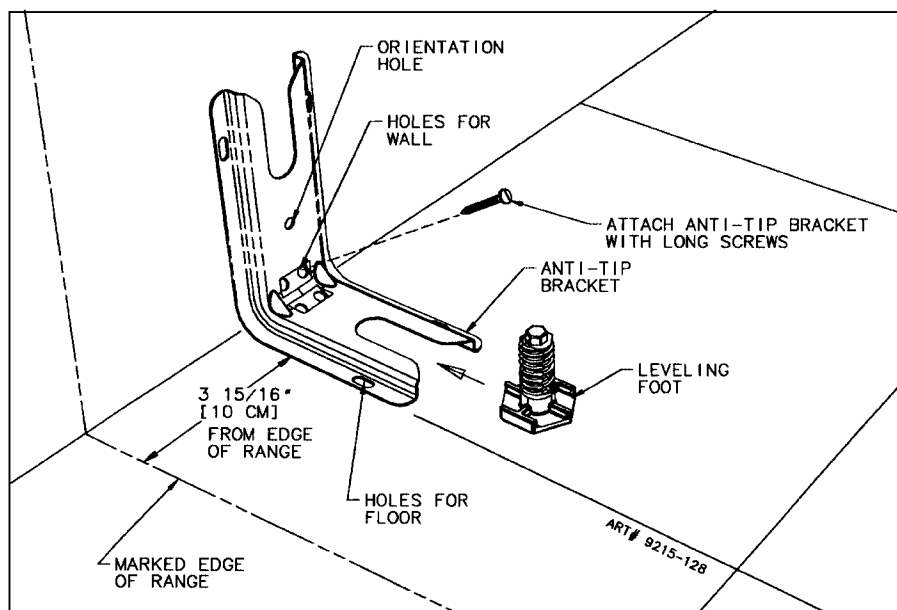
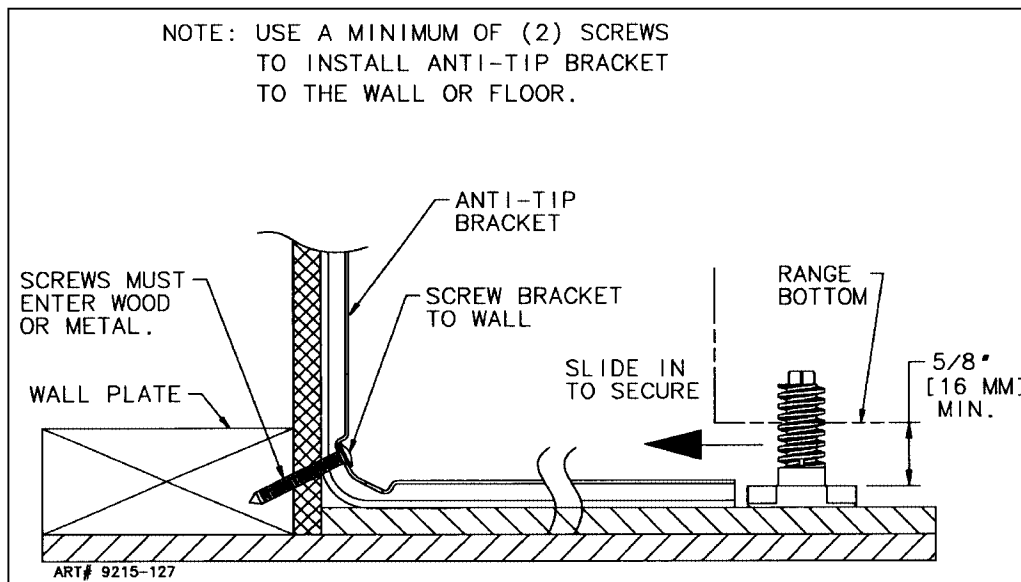

FIGURE 2
FIGURE 3
STEP 1 - Locating The Bracket (see figure 2)
- Place the BRACKET 3-15/16" from the marked "EDGE" toward center of opening and against the back wall as shown in figure 2, with orientation hole against wall.
- Use the bracket as a template and mark the required holes, as shown in figure 2, for the type of construction you will be using.
- Floor: Locate the center of the two holes identified in figure 2 as "HOLES FOR FLOOR". Drill a 1/8" pilot hole in the center of each hole (a nail or awl may be used if a drill is not available). Secure the ANTI-TIP bracket to the floor with the two screws provided. Proceed to STEP 3.
- Wall: Locate the center of the two holes identified in figure 2 as "HOLES FOR WALL". Drill an angled 1/8" pilot hole in the center of each hole as shown in figure 3. (A nail or awl may be used if a drill is not available). Secure the ANTI-TIP bracket to the wall with the two screws provided as shown in figure 3. Proceed to STEP 3.
1. Suitable screws for concrete construction can be obtained at the hardware store. Drill the required size hole for the screws obtained into the concrete at the center of the holes identified in figure 2 as "HOLES FOR FLOOR". Secure the ANTI-TIP bracket to the floor. Proceed to STEP 3.
- A. Align the range to its designated location and slide it back into position. Make sure that the leveling foot is fully inserted into and secured by the ANTI-TIP bracket. Note: A minimum clearance of 5/8" is required between the range and the leveling foot that will engage the ANTI-TIP bracket, see figure 3.